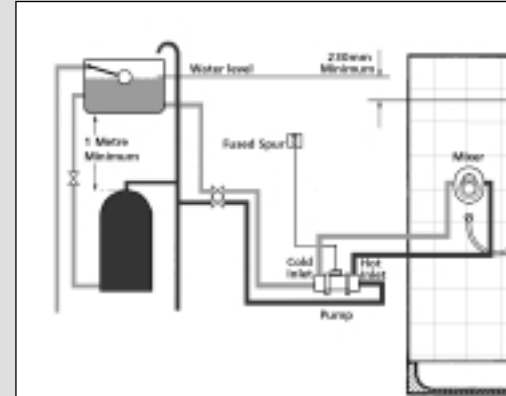

Fig. 1. Typical Twin Pump Shower Installation
DURASPEED, VARISPEED 50, DURASPEED 2 & SINGLESPEED (Fig. 1.)
2. Make your connection into the hot water supply pipe from the cylinder, ensuring that it is in the vertical pipe (below the expansion pipe tee). **A minimum of 1 metre below the base of the cold water storage tank and the top of the hot water cylinder must be achieved. (See Fig.1. for typical pump installation)**
4. **TWIN PUMPS ONLY:** The cold water supply should be taken directly from the cold storage tank, and must be positioned 60mm below the cold feed connection to the hot water cylinder. (See Fig.1. for a typical twin pump installation)